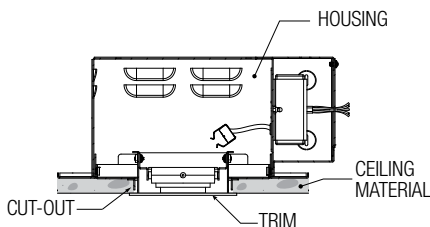

FIGURE 4
Step 2. A clean, square/rectangular opening in the CEILING MATERIAL must be cut. Install the ceiling material below housing as seen in Fig 4.
Step 3. Smooth out MUDDING COMPOUND / TAPE from around trim collar to surrounding areas of DRYWALL as seen in Fig 4.